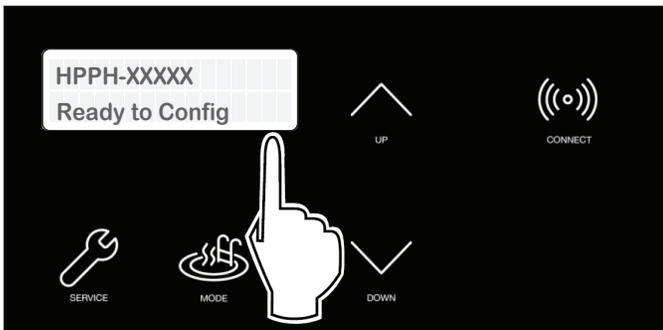

Figure 71. Wi-Fi Ready to Configure and HOTSPOT Identifier
- The CONNECT menu displays the Wi-Fi State, indicating "Ready to Config" wireless connection, and also the HOTSPOT identifier. See Figure 71.